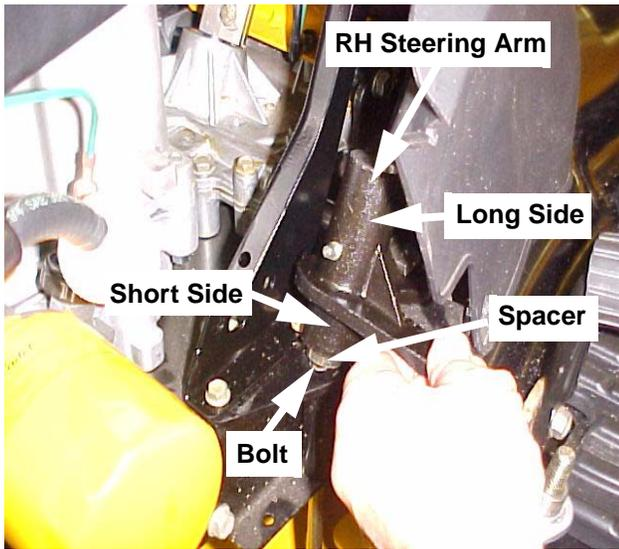

FIGURE 17
28. Install the spacer, (Ref.#6 Figure 14) inside the LH steering arm and place the assembled parts over the top of the 3/8-16 x 7.25" bolt. **NOTE:** The LH steering arm is installed with the grease fitting facing the front of the tractor and the short side down, long side up. See Figure 17.